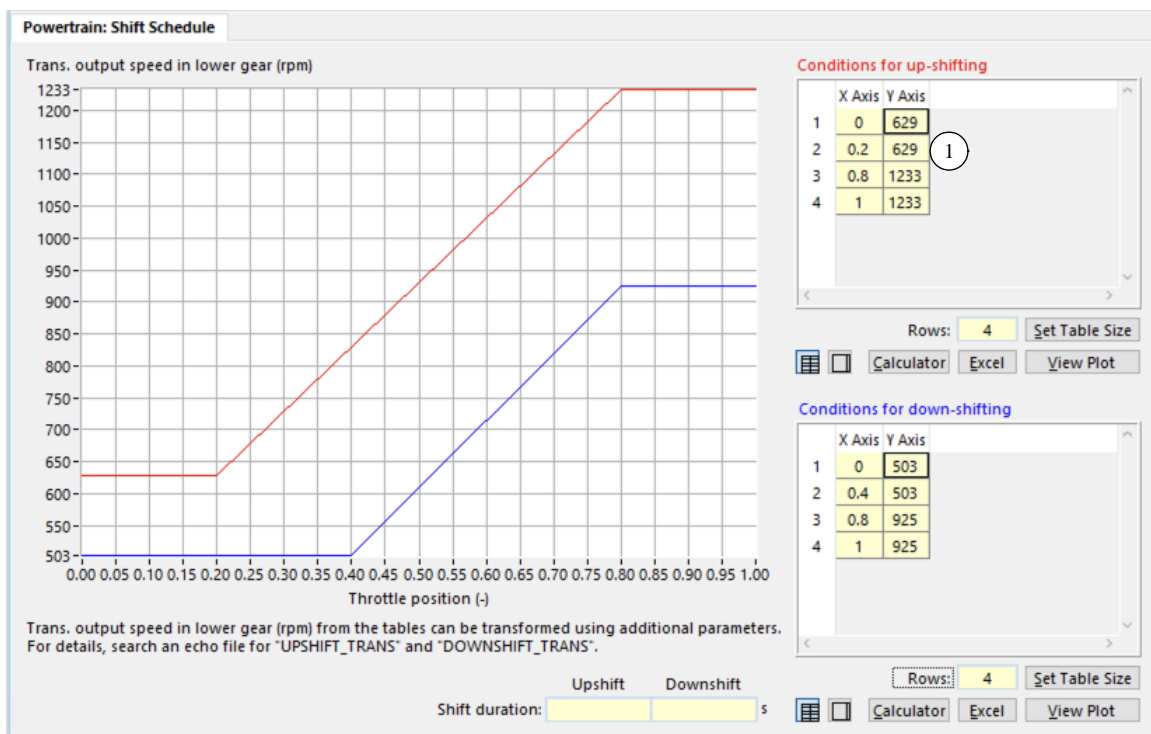

Figure 9. Dataset from the Powertrain: Shift Schedule library.
The first blue link (2) links to a Shift dataset (Figure 9) with Upshift and Downshift data for shifting between gears 1 and 2.
In the Shift dataset, notice that the table data for upshifting ① (Figure 9) is the same as the table data shown in the dataset from the deprecated library ① (Figure 5 and Figure 6).